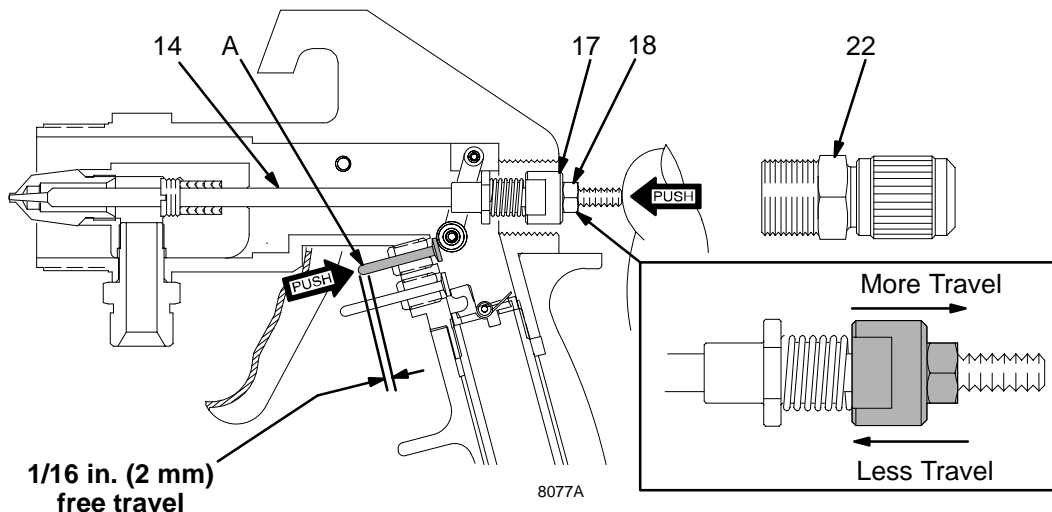

Fig. 21 Model 980 shown
1. Fig. 21. Remove fitting (22) and spring (23-not shown) from back of gun.
2. Remove needle (14).
3. Insert new needle (14).
4. Hold needle (14) with thumb and push upper trigger pin (A) with index finger. Fig. 21. Trigger pin must travel approximately 1/16 in. (2 mm) under light spring pressure.
5. If there is not 1/16 in. of travel, loosen adjustment nut (18) and turn drum (17) until trigger pin (A) has about 1/16 in. (2 mm) free travel before needle (14) starts to move.
6. Lock adjustment nut (18).
7. Make sure spring (23) is in place in fitting (22), then install fitting. Hand-tighten fitting.